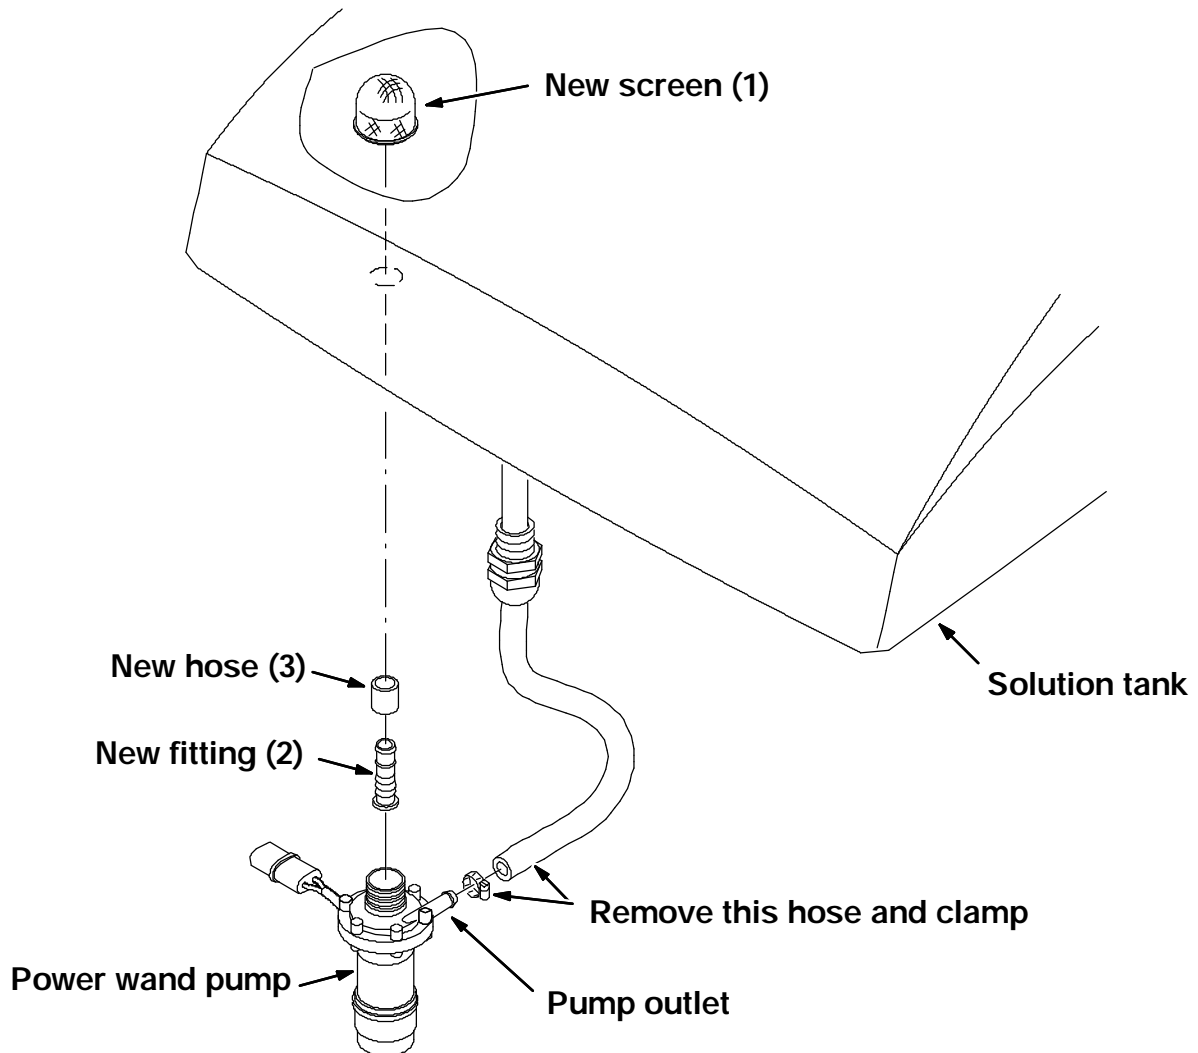

FIG. 2 - Power Wand Pump Screen
(Refer to FIG. 2)
3. Reach inside the tank and remove the old power wand screen from the right front corner of the tank. (Refer to Fig. 2)
4. Go under the solution tank and loosen the worm drive clamp holding the hose to the outlet of the power wand pump. Pull the hose off the pump. (Refer to Fig. 2)
5. Disconnect the power wand pump from the electrical harness. (Refer to Fig. 2)
6. Remove the power wand pump from the bottom of the solution tank. This is done by turning the pump counter-clockwise. (Refer to Fig. 2)
7. Position the short hose (3) on the plastic fitting (2). (Refer to Fig. 2)
8. Position the plastic fitting (2) and short hose (3) in the power wand pump hole from the bottom up. (Refer to Fig. 2)
9. Reinstall the power wand pump. Turn clockwise until it is tight. (Refer to Fig. 2)
10. Reconnect the power wand pump to the main electrical harness. (Refer to Fig. 2)
11. Reconnect the hose to the outlet of the power wand pump. Tighten the worm drive clamp. (Refer to Fig. 2)
12. Reach inside the solution tank and position the new screen (1) on the fitting (2) that was just installed. (Refer to Fig. 2)